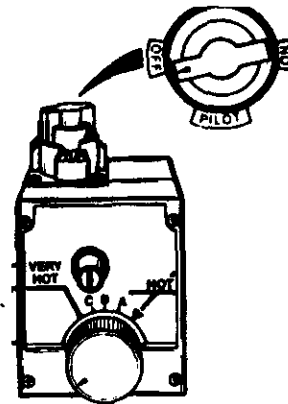
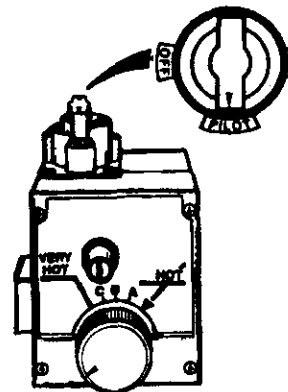
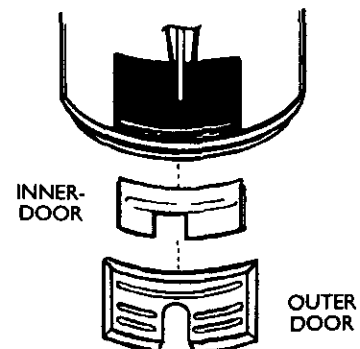

Figure 5
Figure 6
Figure 8
4. Turn gas control knob clockwise () to "OFF" position. Knob cannot be turned from "PILOT" to "OFF" unless knob is depressed slightly. **DO NOT FORCE.** (Figure 5, page 19)
5. Wait five (5) minutes to clear out any gas. If you then smell gas, **STOP!** Follow "B" in the safety information above on this label. If you don't smell gas, go to the next step.
6. Remove (or open) inner door located below the gas control unit. (Figure 8, page 19)
8. If you don't smell gas, turn knob on gas control counter clockwise () to "PILOT" position. (Figure 6, page 19)
9. Push in control knob all the way and hold down. Immediately light the pilot with a match. Continue to hold control knob in for about one (1) minute after the pilot is lit. Release knob and it will pop back up. Pilot should remain lit. If it goes out, repeat steps 3 through 8.
- If the pilot will not stay lit after several tries, depress and turn the gas control knob clockwise () to "OFF" and call your service technician or gas supplier. (Figure 5, page 19)
10. Replace (or close) inner door. Replace outer door if door does not cover gas control on/off knob or temperature adjustment knob. (Figure 8, page 19)
2. Turn gas control knob clockwise () to "OFF" position. Knob cannot be turned from "PILOT" to "OFF" unless knob is depressed slightly. **DO NOT FORCE.** (Figure 5)